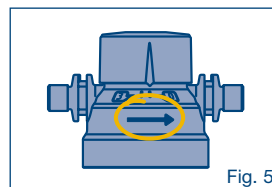

Fig. 5
2. pay close attention to the correct direction arrow on the filter head, filter is only to be installed in the directional flow.(see Fig.5)